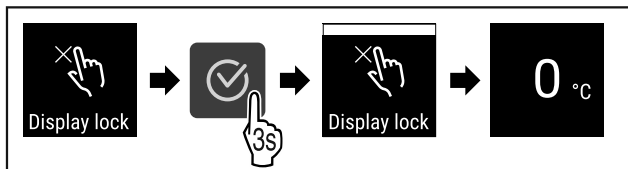

Fig. 96
- ▶ Carry out steps (see Fig. 96).